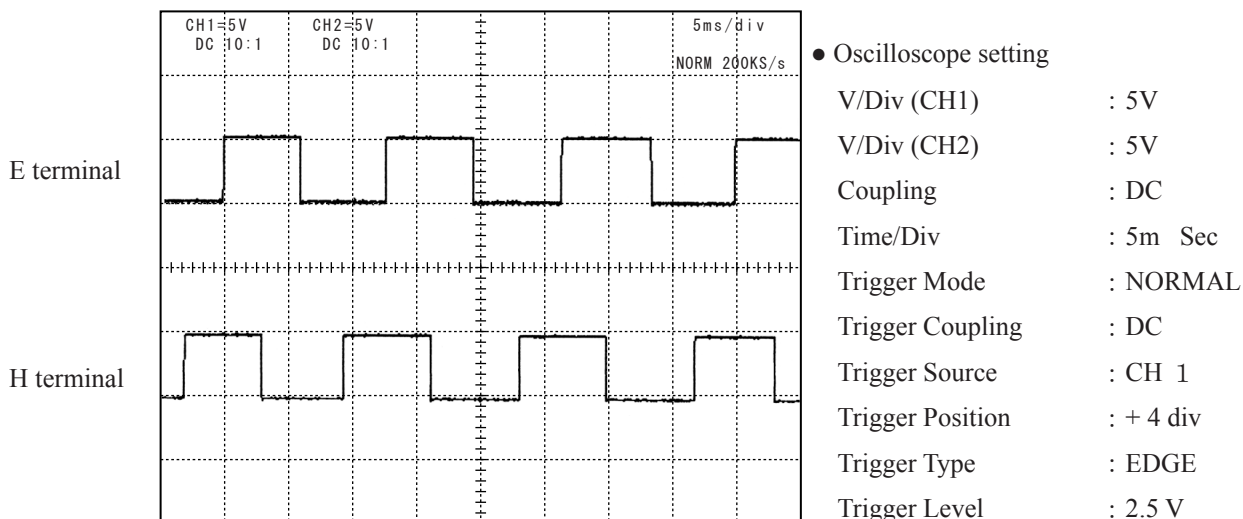

Fig.1
- ⑤ Confirm that the waveform on the oscilloscope has duty 50% and stop the MF ring at the close-end. (Fig.1)